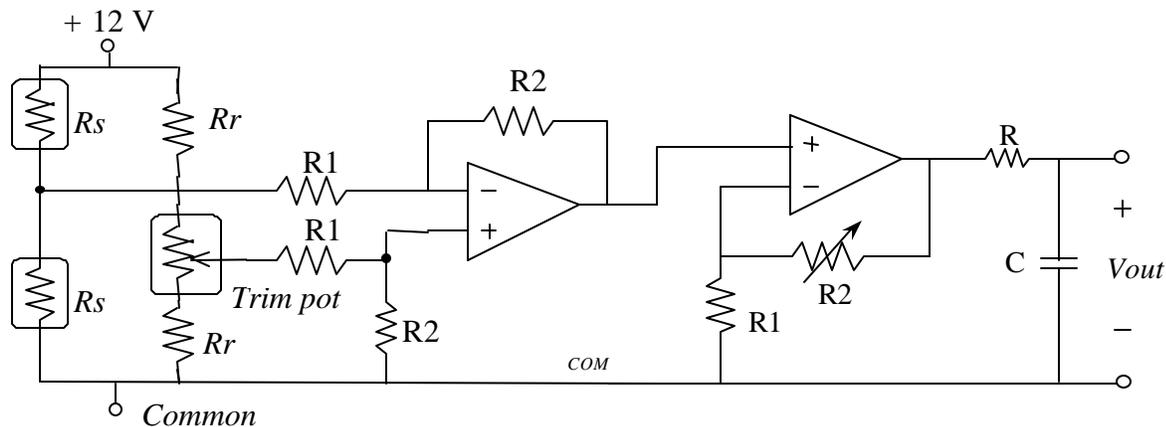

Figure 6 The electronic scale circuit with two stages of amplification and low-pass filter.
- As shown in Figure 6, add a low-pass filter to the output of the second amplifier. Use a 4.7k resistor and 10 μF capacitor. The idea is to filter out high-frequency noise. What is the cutoff frequency for this filter?